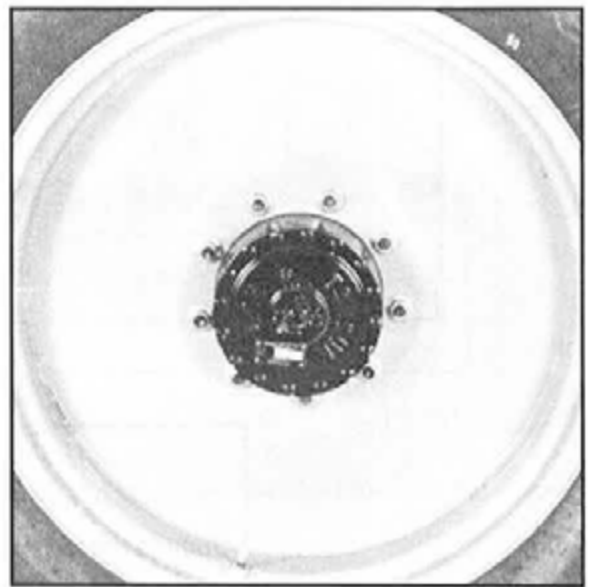

FIG 7.3
2. Disengage each Torque Hub[®] by removing two outer cap bolts, turning the outer cap with the extended center in towards the hub and re-installing the two outer cap bolts. This process pushes on a spring-loaded splined shaft, disengaging the Torque Hub[®] (fig. 7.3).